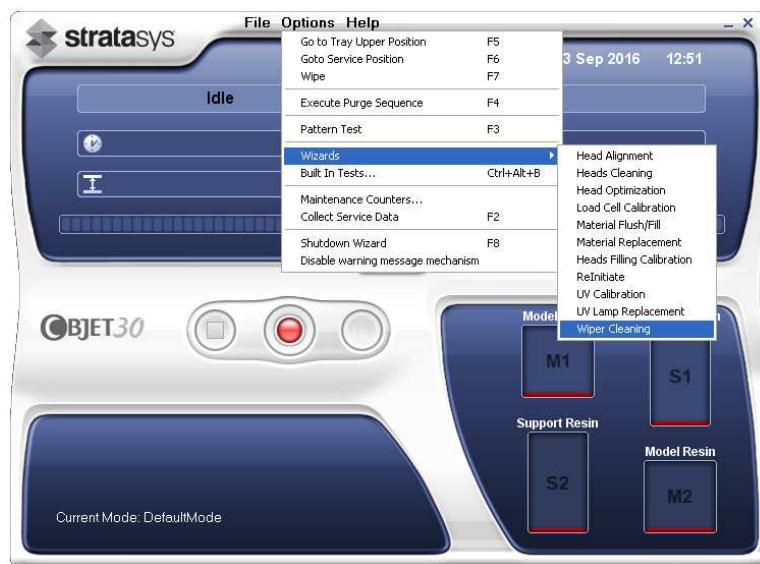

Figure 6-35 Starting the Wiper Cleaning wizard
2. Start the Head Cleaning wizard from the *Options* menu (see Figure 6-35 on page 6-30).